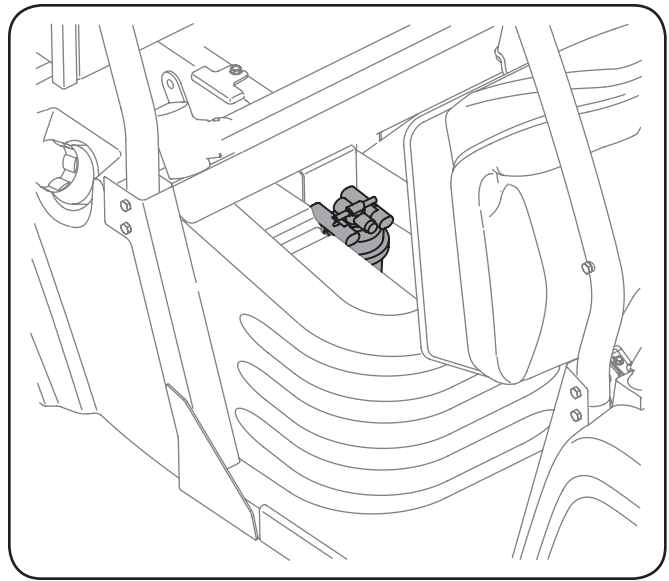

Figure 5-3
Drain the condensate from the fuel filter before each use. You can access the fuel filter beneath the passenger seat. Refer to Figure 5-3.
4. Access drain plug through slot on underside of machine and remove plug. See Figure 5-3.